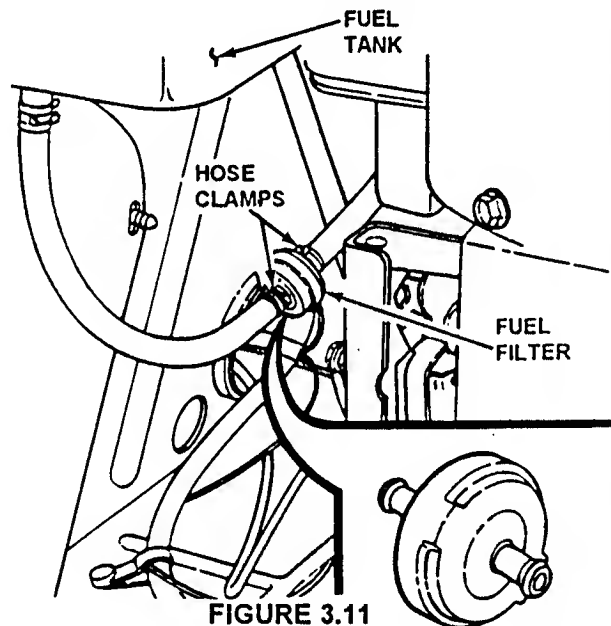

FIGURE 3.11
3. Install new fuel filter. See Figure 3.11.